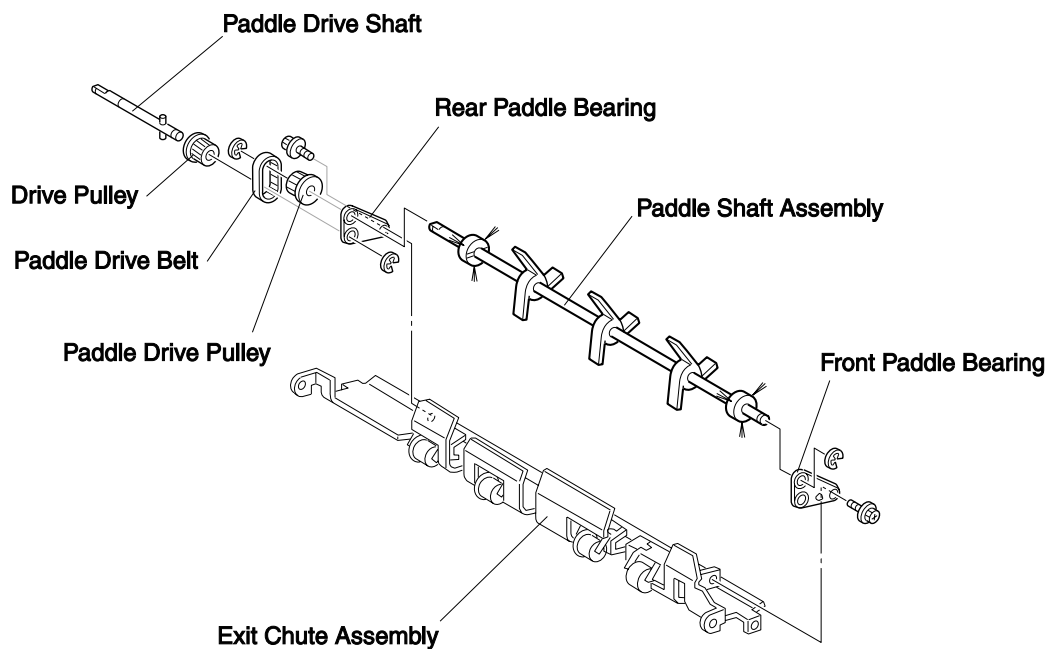

Figure 2
7. Remove the E rings from both ends of the Paddle Shaft (Figure 2).